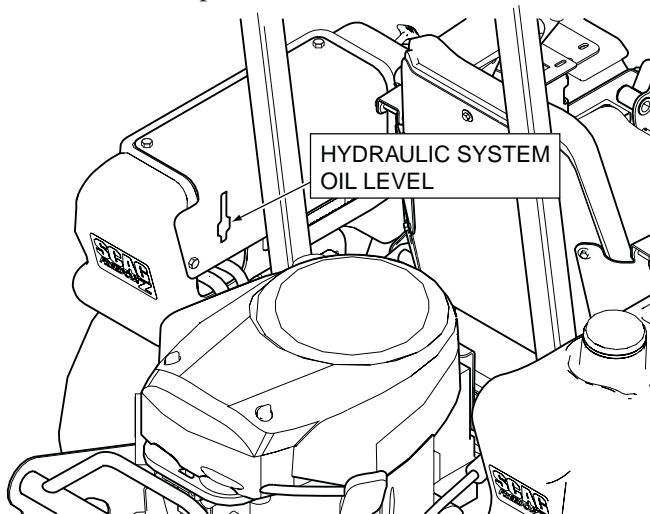

Figure 7-2 Hydraulic System Oil Level
2. When the machine is "cold" (before operation), visually check the level of hydraulic system oil. Hydraulic system oil level should be in the middle of the indicator window located on the left side of the machine (See Figure 7-2) . If the fluid is low, add 20W50 motor oil until the proper level is achieved. **DO NOT** overfill; (overfilling the oil reservoir may cause oil seepage).